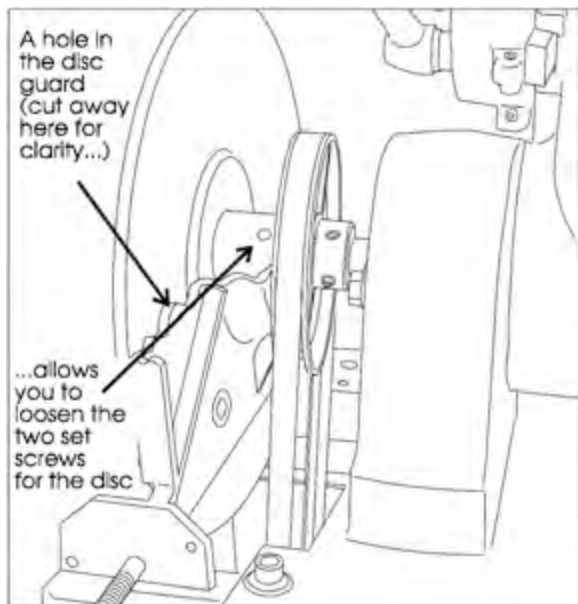

Figure 20: Locating the set screws that secure the disc to the arbor
8. Through the hole in the disc guard casting, locate and remove the TWO set screws that secure the drive disc to the arbor (Figure 20). One set screw clamps on the arbor key and the other clamps on the arbor shaft, itself. Be sure you loosen both of them.